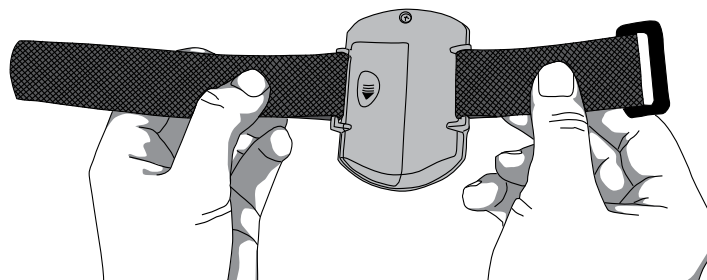

Figure 13: Verify Two-Piece Wrist Band Attachment
1. Verify the ring strap and the adjustable strap have been attached properly to the device (figure 13). If straps have not been attached to the device, see "Attach Ring Strap to Device" and "Attach Adjustable Strap to Device."